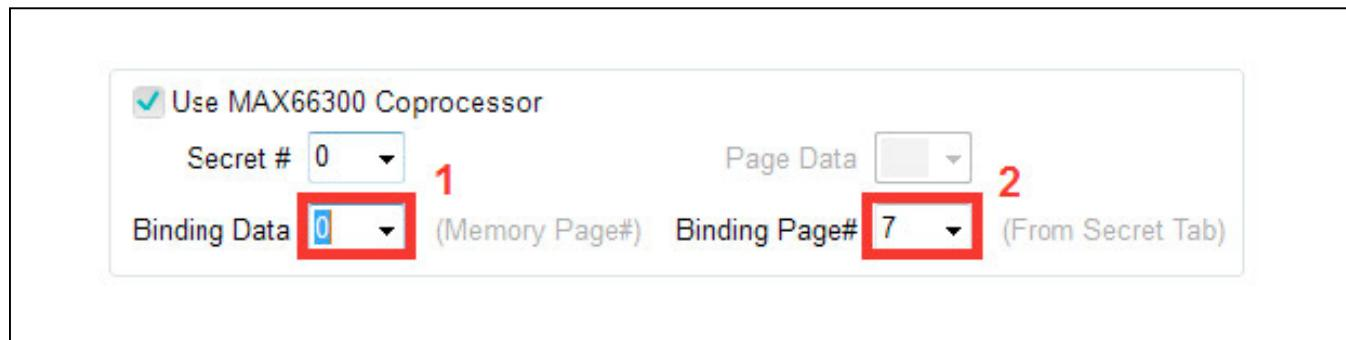

Figure 35. Select Binding Data and Binding Page #
- 5) Set both the **Binding Data** drop-down box to '0' and the **Binding Page#** drop-down box to '7' (Figure 35). This conveys the Coprocessor to use its previously loaded Binding Data in memory page '0' and load the binding page number byte to be '7' for the message input location included with the other data. The